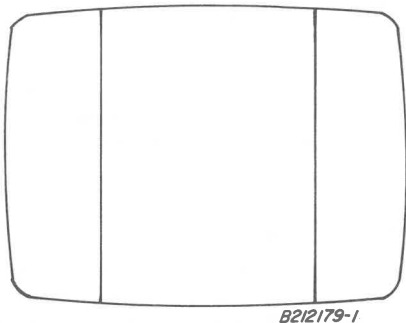

Fig. 7—Center Vertical Green Raster
4. To reassemble, reverse procedure. Refer to Fig. 7 for proper beam bender placement on neck of picture tube. Note: Purity and convergence procedures must be performed each time the yoke and beam bender are removed.
5. Remove four (4) $\frac{5}{16}$ " hex head screws, one in each corner of picture tube.
8. To reassemble, reverse procedure. Consult Replacement Parts List for stock number of correct Adjustable Beam Bender and Fig. 7 for proper installation.